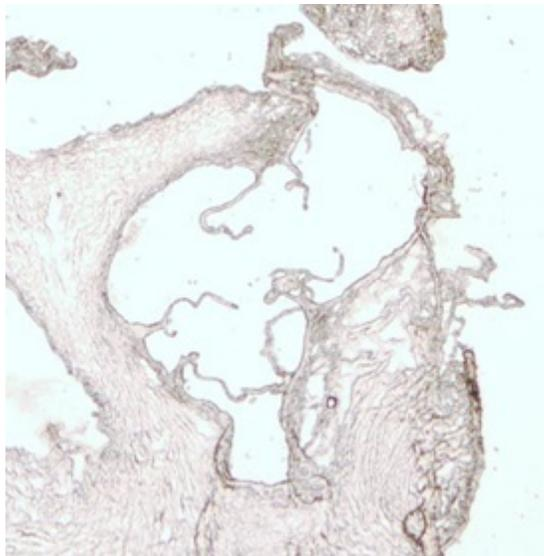

Figure 4. Aortic root
5. Once the aortic root has been located, begin collecting sections using sequentially labeled slides (see Figure 4, 5).